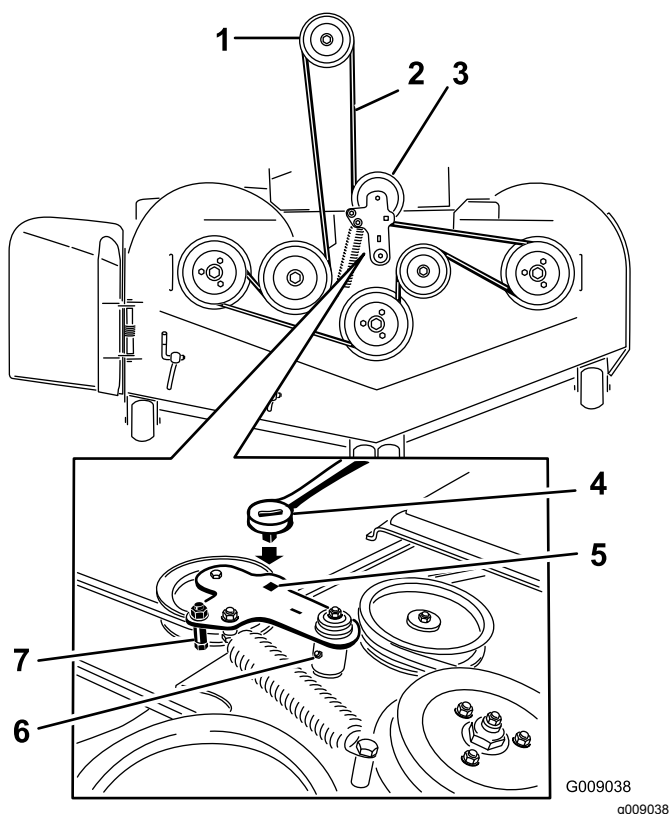

Figure 104
5. Lift up the floor pan and insert a ratchet into the square hole in the deck idler (Figure 104).
6. Rotate the deck idler clockwise and remove the mower belt (Figure 104).